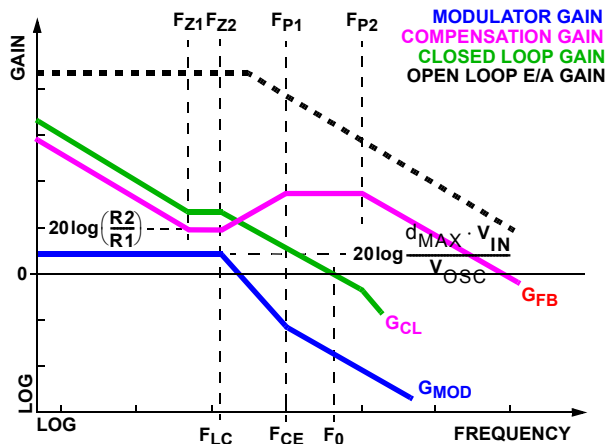

FIGURE 11. ASYMPTOTIC BODE PLOT OF CONVERTER GAIN
Figure 11 shows an asymptotic plot of the DC-DC converter's gain vs. frequency. The actual Modulator Gain has a high gain peak dependent on the quality factor (Q) of the output filter, which is not shown. Using the above guidelines should yield a compensation gain similar to the curve plotted. The open loop error amplifier gain bounds the compensation gain. Check the compensation gain at  $F_{P2}$  against the capabilities of the error amplifier. The closed loop gain,  $G_{CL}$ , is constructed on the log-log graph of Figure 11 by adding the modulator gain,  $G_{MOD}$  (in dB), to the feedback compensation gain,  $G_{FB}$  (in dB). This is equivalent to multiplying the modulator transfer function and the compensation transfer function and then plotting the resulting gain.